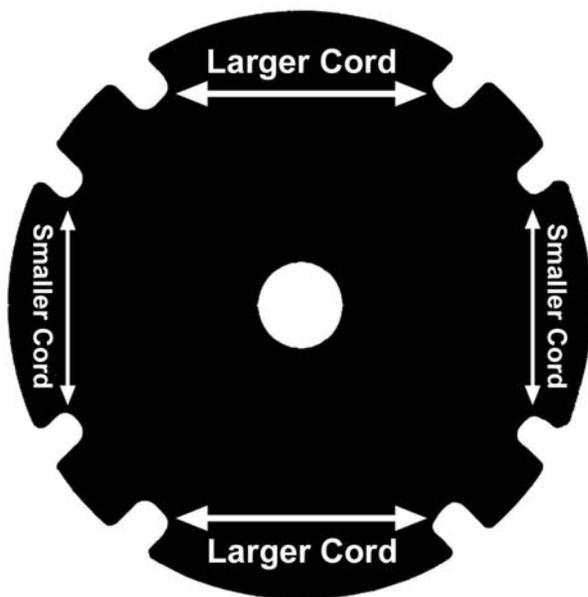

Figure 9
The following figures (*Figures 9 and 10*) illustrate the Cords installation on the line plates. These figures show the Line Plates from a cross section point of view. It may look complicated, but once you have done it a couple of times, it's easy. There are two (2) sets of installation points on each Line Plate. Each pair is 180 degrees apart. One (1) set of holes is for larger Cord (Blue, 175 mil, and Green, 155 mil) and is marked with large arrows. The other set of holes is marked with small arrows and are at 90 degrees to the larger holes and they accommodate the smaller Cord (Orange, 130 mil). Always install two (2) Cords one opposite the other.
2. Push the Cord through until it comes out the center hole in the Line Plate as shown in **Figure 12**. You may also reference **Figures 9 and 10** for installing the Cords. Adjust the Cords so the tips are even.